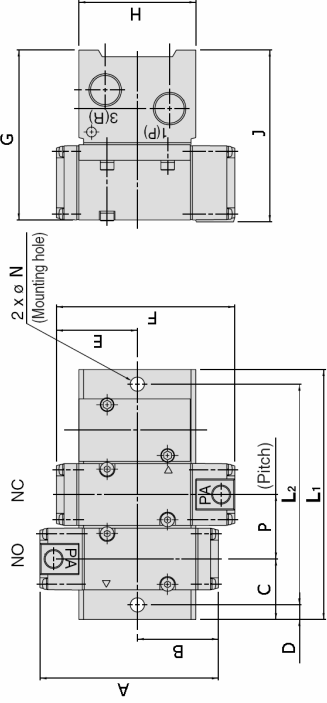
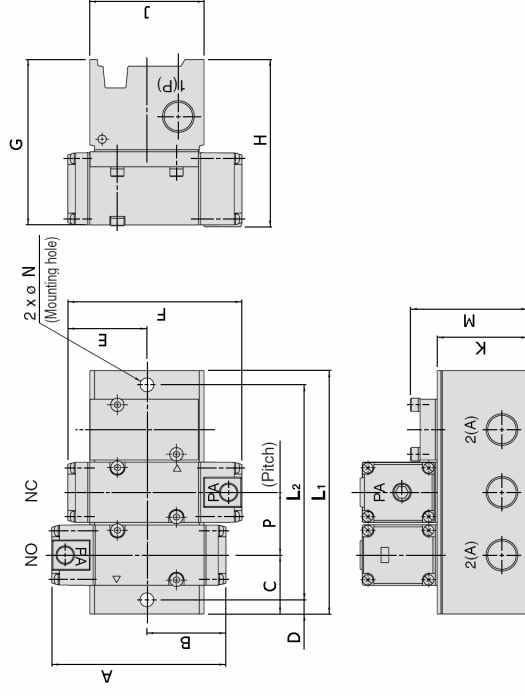

Figure 6
Figure 8
- See Figure 6 and Figure 8 for mounting holes.